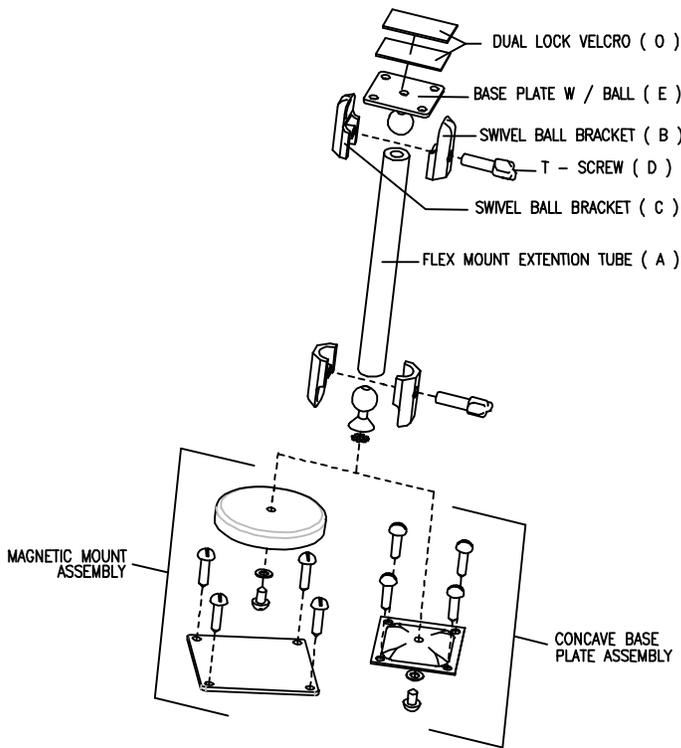

Figure 1 Flex Mount Extension Tube Assembly G10377
1. Use T-Screw (D) with Swivel Ball Brackets (B & C) to secure Flex Mount Extension Tube (A) to Base Plate with Ball (E) (fig1).
2. Use the enclosed alcohol wipe to clean a spot on the Base Plate with Ball (E) and back of Hand Held Control (not pictured).
3. Peel off backing on Dual Lock Velcro (O). Apply one strip to Base Plate with Ball (E) and the other to back of Hand Held Control (not pictured).